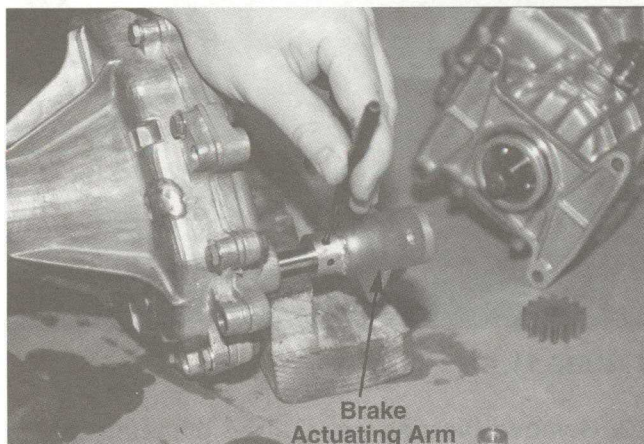

FIGURE 5.
5. Remove the brake actuating arm from the shaft by supporting the shaft and housing with some blocks of wood so that you do not damage the shaft and components during disassembly. See figure 5.